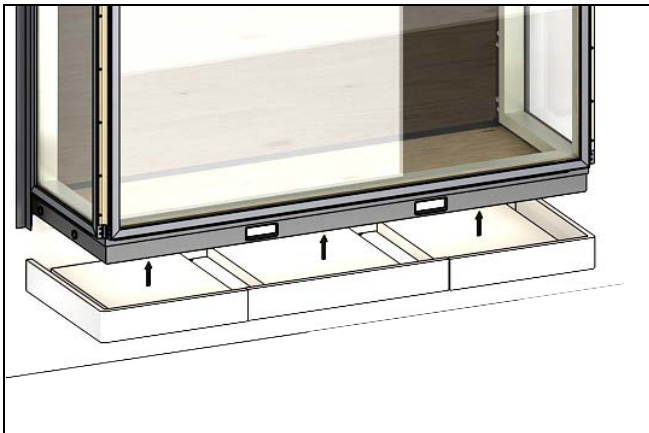

Figure 34
3. Install foam panels by aligning handed parts onto the bottom of the steel structure until it is fully seated against the steel structure. ("LH" means the left hand panel, which will be on the left hand side of the unit as you look at it from exterior.) See Figure 34.